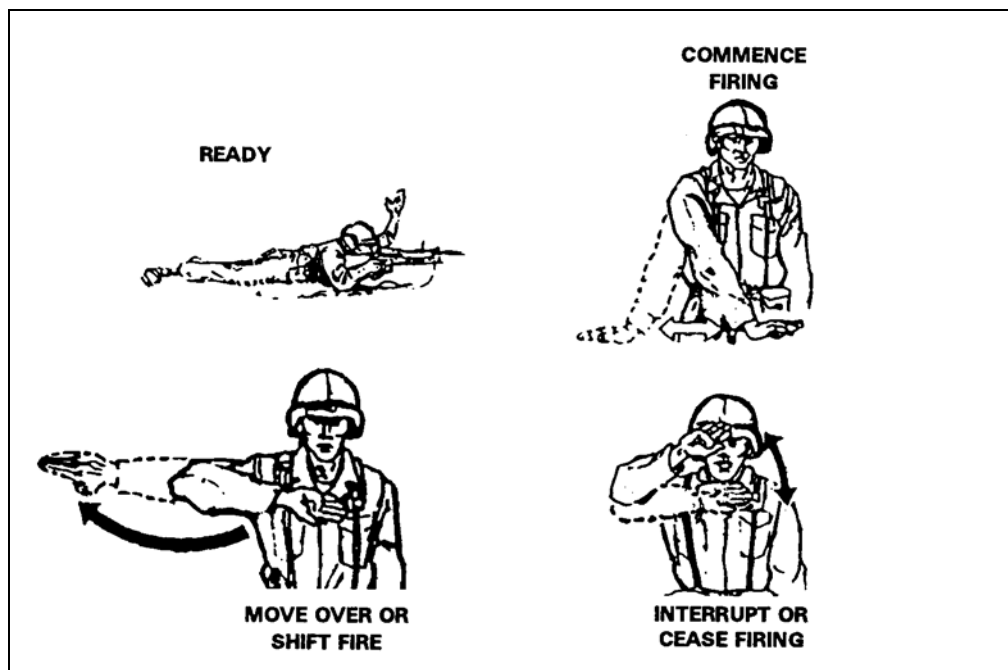

Figure 6-12. Arm-and-hand signals.
(2) **Arm-and-Hand Method.** To control fire when battlefield noise or distance to the grenadier is too great, the leader must use arm-and-hand signals (Figure 6-12, page 6-16). When he wants a specific grenadier to execute an action or movement, he gives a preliminary signal to that grenadier only. The following signals are commonly used by leaders and grenadiers: